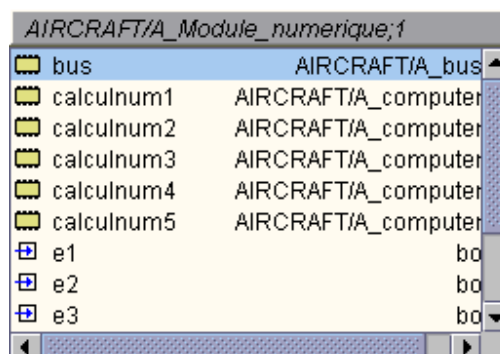

Figure 83 : Altarica Code – Variables selector
- In order to facilitate the assertion filling, the short cut **Ctrl+<SPACE>** gives access to the hierarchical menu (Figure 83) for the search and selection of equipment flow variables, state variables, or equipment component flow.